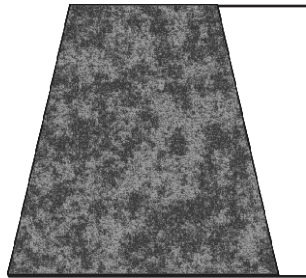

Fig. 21d
**NOTE:** When shaping it is advisable to achieve a trapezoidal shape (See Fig. 21d). A trapezoidal cut corresponds to the natural growth of plants and results in optimal hedge growth, as it will expose more light to the bottom of the hedge.